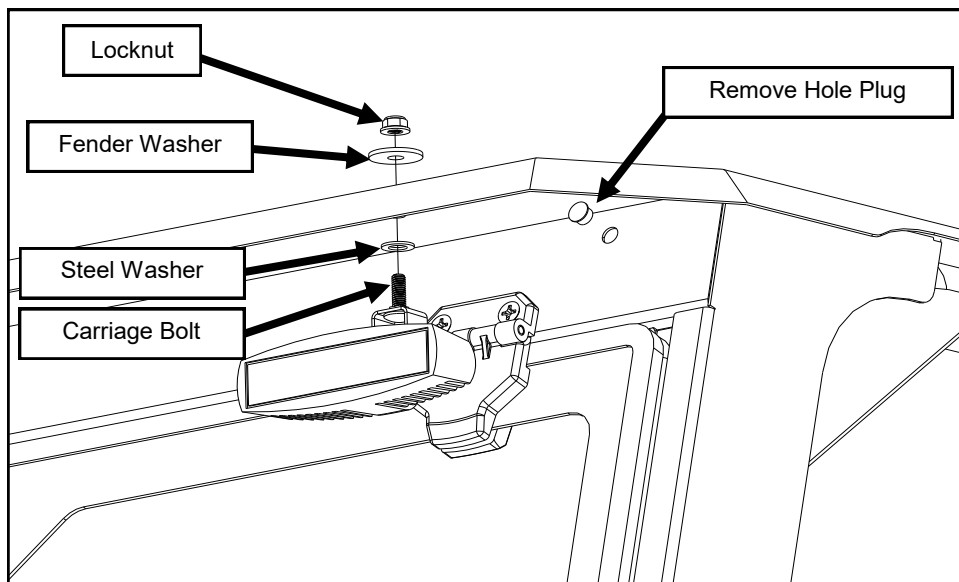

Fig. 1.2
2. Install the work light through the hole in the roof using the hardware shown in figure 1.2. **IMPORTANT: orient the light with the wire on the underside so that any condensation that forms in the light can drain correctly.**